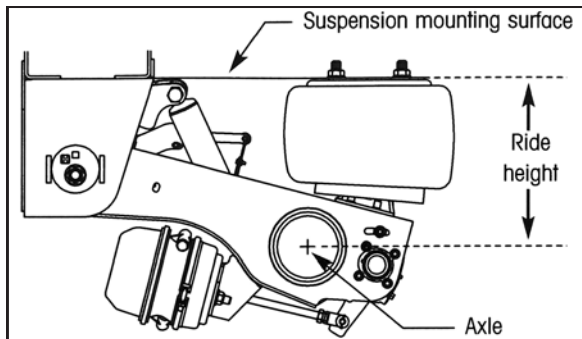

Figure 23. Ride height measurement
- a. Measure from the underside of the trailer frame to the top of the axle as shown below (Figure 23).